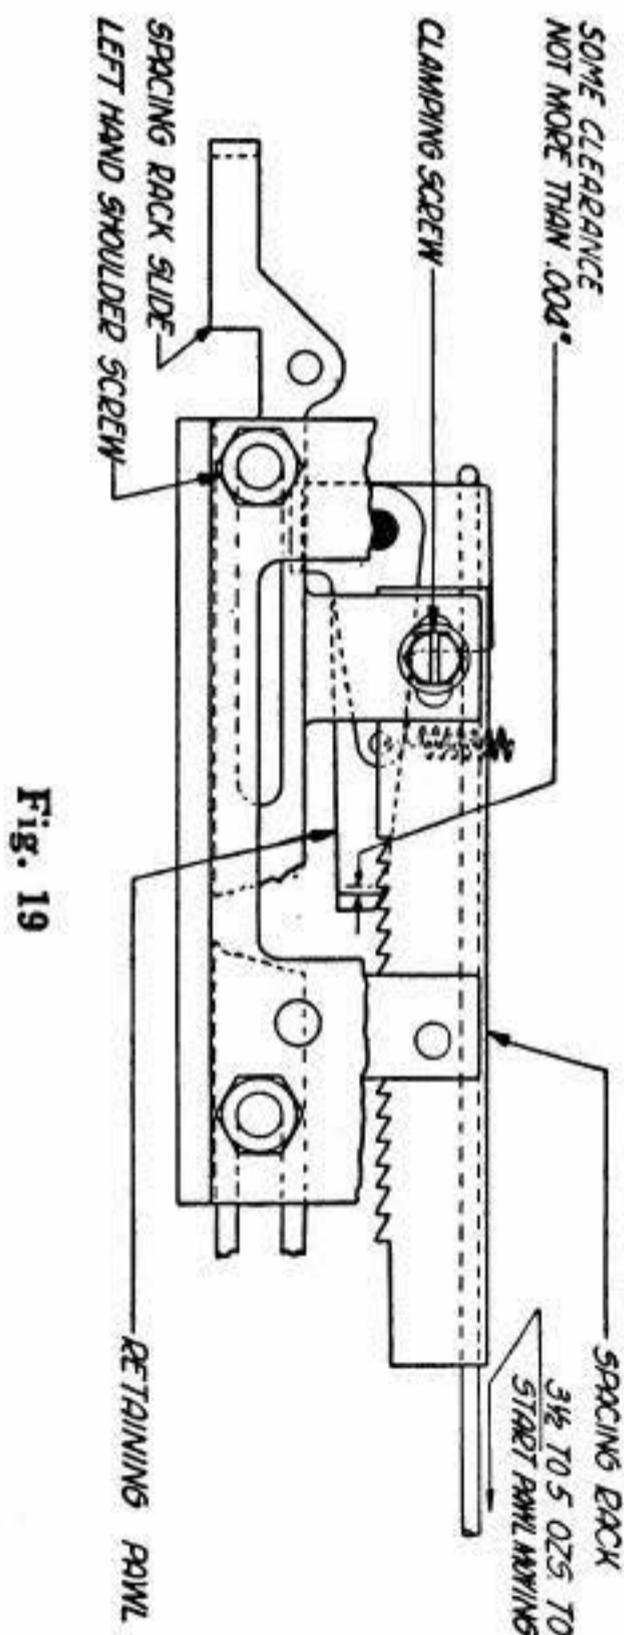

Fig. 19
(a) With the operating camsleeve in its stop position and the spacing-rack slide moved to the right until it rests against the left-hand shoulder screw (return position), there should be some clearance, not more than .004", as indicated in Fig. 19, between the retaining pawl and the second tooth from the left end of the spacing rack.
- (1) To adjust, position the spacing rack by means of its clamping screw. **Fig. 19**
2.41 **Retaining-Pawl Spring:** With the spacing-rack slide in the returned position, hook a scale over the upper end of the retaining pawl and pull horizontally to the right. It should require a pull of Min 3-1/2 oz, Max 5 oz as indicated in Fig. 19, to start the pawl moving. **Fig. 19**